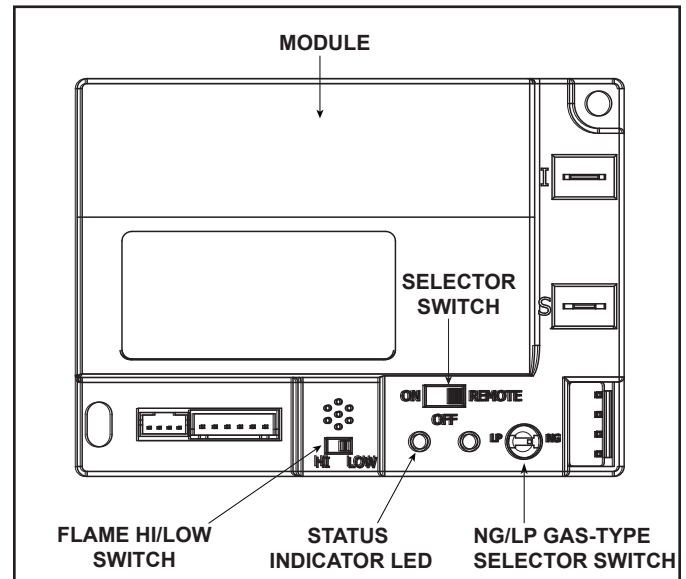

Figure 2.4 Control Module
1. The control module has an ON/OFF/REMOTE selector switch that must be set. See Figure 2.4.
- Locate the module selector switch. (See Figure 2.4).
- Wait five (5) minutes to allow possible accumulated gas to clear.